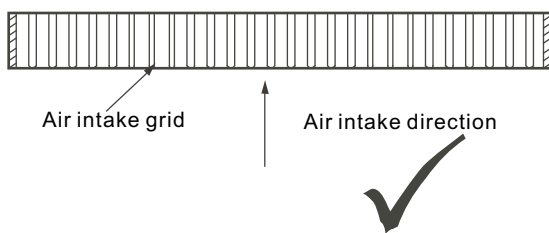

Figure 3.3
1) Pay attention to maintain the parallelism between the air grid angle and the air intake direction when you make the air intake panel of the air return box. Refer to Figure 3.3.